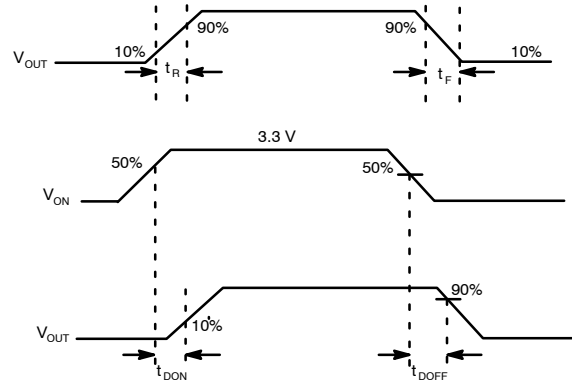

Figure 23. Timing Diagram for FPF1203/4
4.  $t_{DON}$  /  $t_{DOFF}$  /  $t_R$  /  $t_F$  are defined in Figure 23.